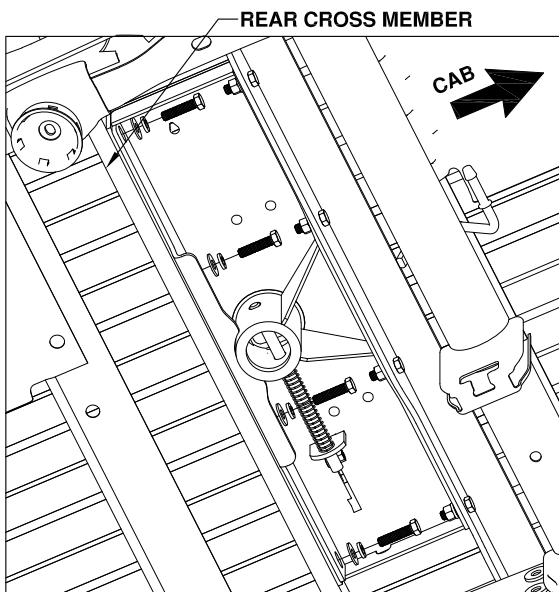

Figure B11: View under the center section looking from in front of the axle on the passenger side.
6. **Attach the rear cross member to the center.** Slide the rear cross member up against the center section. Line up the slots in the center with the threaded holes in the cross member. Attach the two members using $\frac{1}{2}$ " x 2" long bolts, flat washers, and lock washers as shown in Figure B11. Hand tighten bolts.